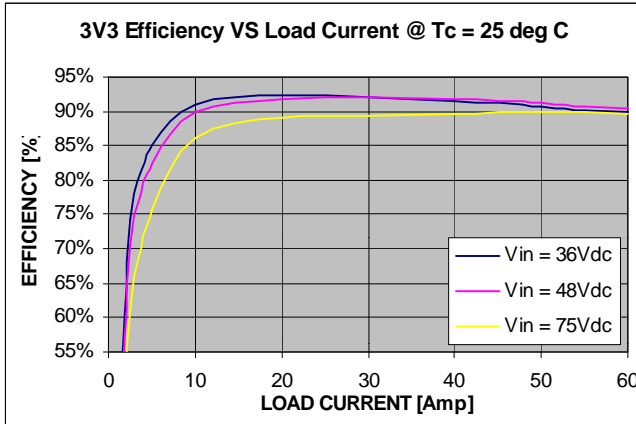

Figure 5. AEH/ALH60 3V3 Efficiency Curve at T_c = 25°C
4. Refer to Figures 5 and 6 for the Efficiency Curves